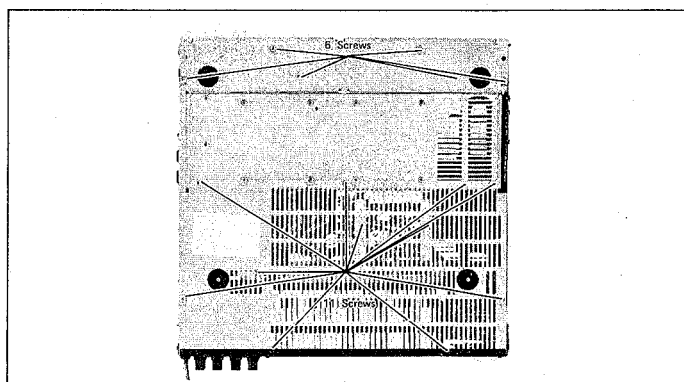

Figure 39-2
1. Turn the set over and remove the 17 screws retaining the bottom lid, then the bottom lid can be detached by holding it up. (Refer to Figure 39-2)